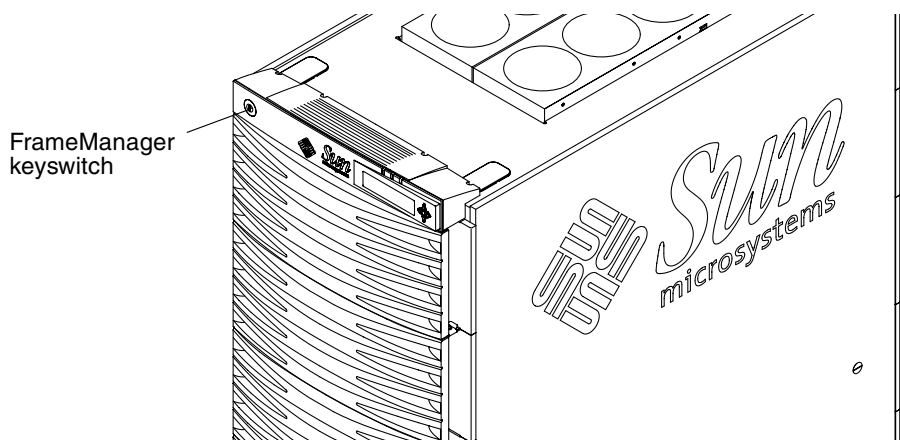

FIGURE 2-1 Sun Fire System Cabinet Showing FrameManager—Top View
2. If your Sun Fire 4810/4800/3800 system is not in a Sun Fire™ cabinet, skip to Step 3. For Sun Fire 6800 system or Sun Fire 4810/4800/3800 systems mounted in a Sun Fire cabinet, turn the keyswitch on the FrameManager to the off position (FIGURE 2-1).
6. If your Sun Fire 4810/4800/3800 system is not in a Sun Fire cabinet, skip this step. For Sun Fire 6800 system or Sun Fire 4810/4800/3800 systems mounted in a Sun Fire cabinet, turn the keyswitch on the FrameManager to the on position (FIGURE 2-1).